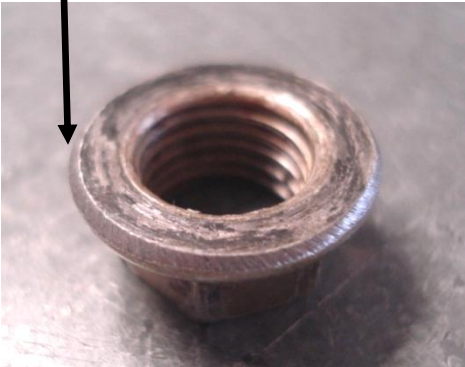
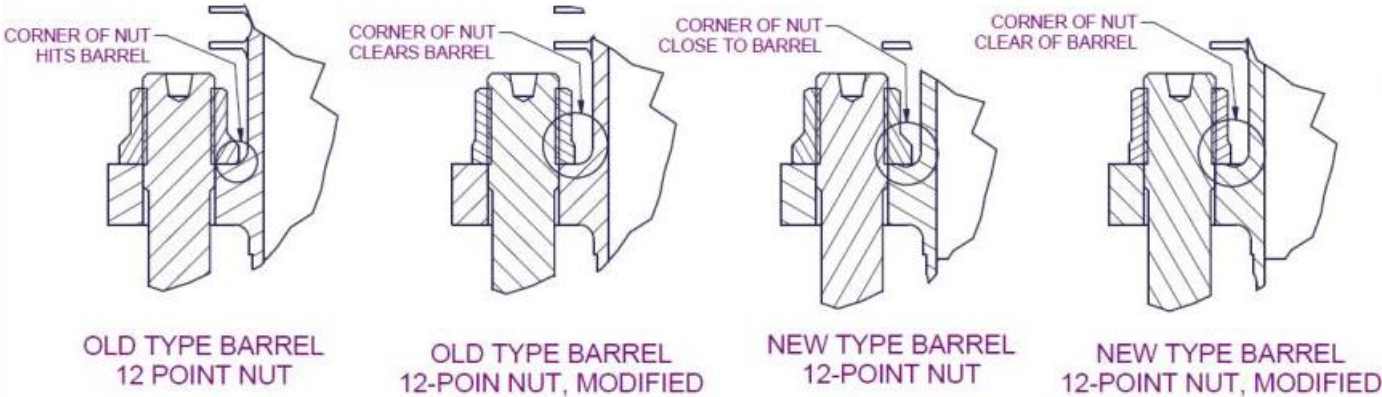

Figure 137 – Through Bolt Nut Chamfer
Figure 139 – Barrel / Nut Interference
- Check that all nuts are clear of the radius on the base of the cylinder barrel. Figure 139 shows assemblies of new and old type barrels plus standard and modified nuts. It can be seen that using un-
modified nuts (i.e. no chamfer) on either barrel can result in the nut hitting on the radius at the cylinder base. To avoid this it is necessary to apply a small chamfer to the base of the nut as per Figure 137. Alternatively, the diameter of the nut base can be reduced in a lathe – this has been carried out to the “modified” nuts shown in Figure 139.